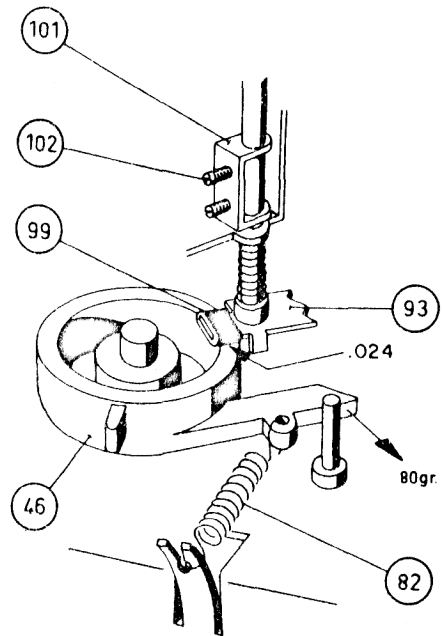

Fig.19
COUPLING DISC 46 (see Figure 19)
1. When the needle is upon the record, the long lug of coupling disc 46 must press against the stopping pin with a force of at least 80 G. (see Figure 19)
2. The distance between the nylon friction block 99 and the coupling disc 46 must be $.023''$ to $.027''$ in the lowest position (see Figure 19).